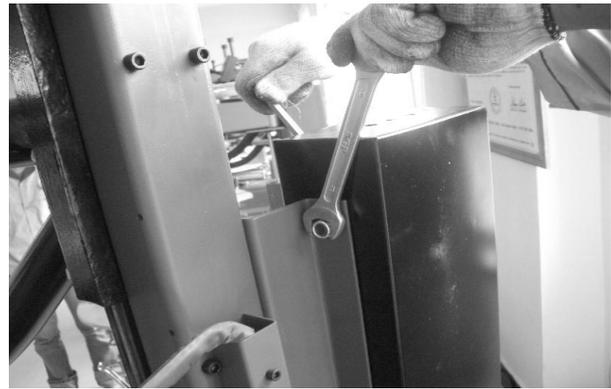

FIG 36
6.1.8 According to the fig36, fix the fix bracket on the body and fixes the tool box on the fix bracket and then use the lock nut to tight.